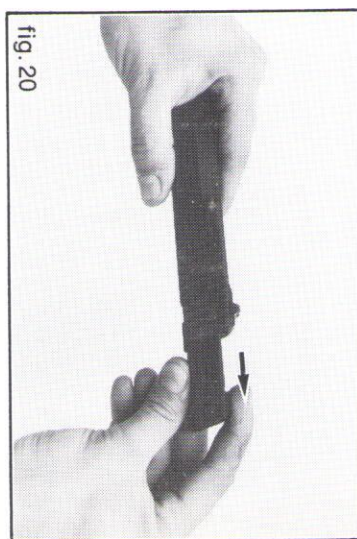

fig. 20
10. Pull the bolt out (rearward) from the slide (fig. 20).